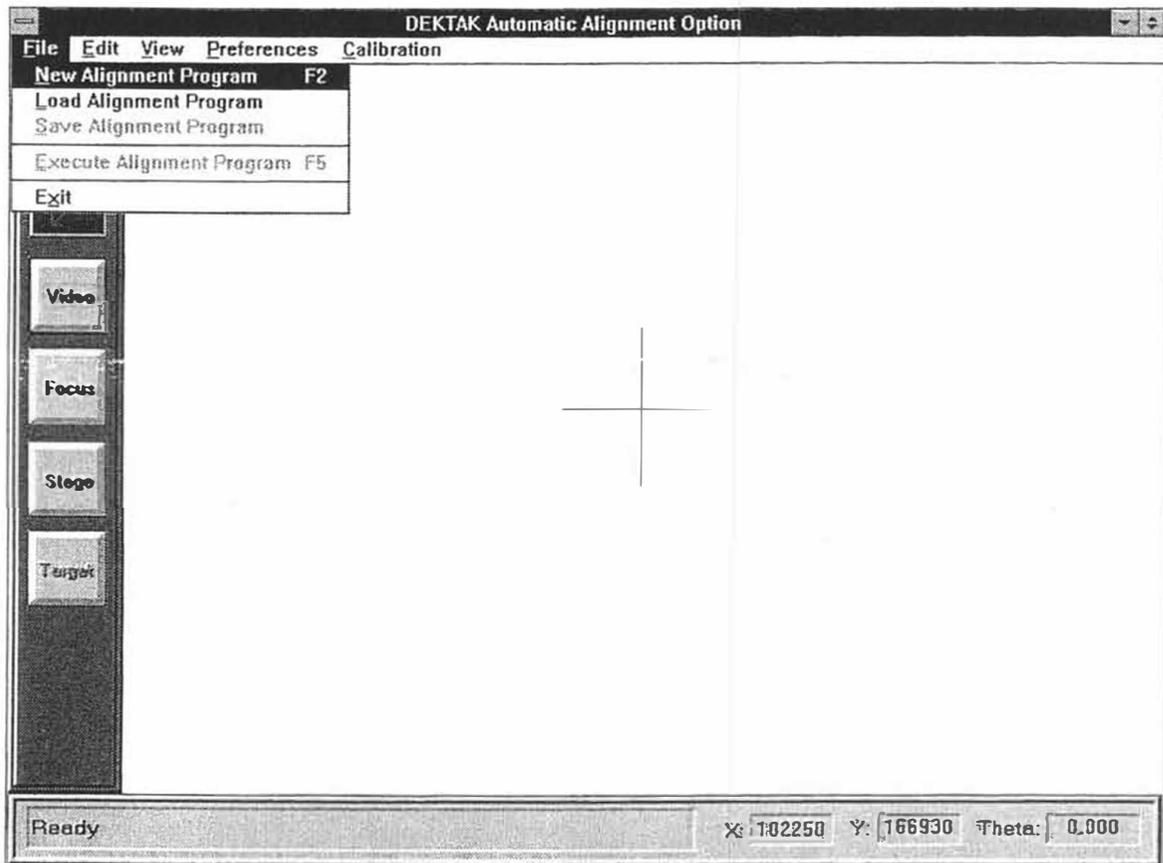
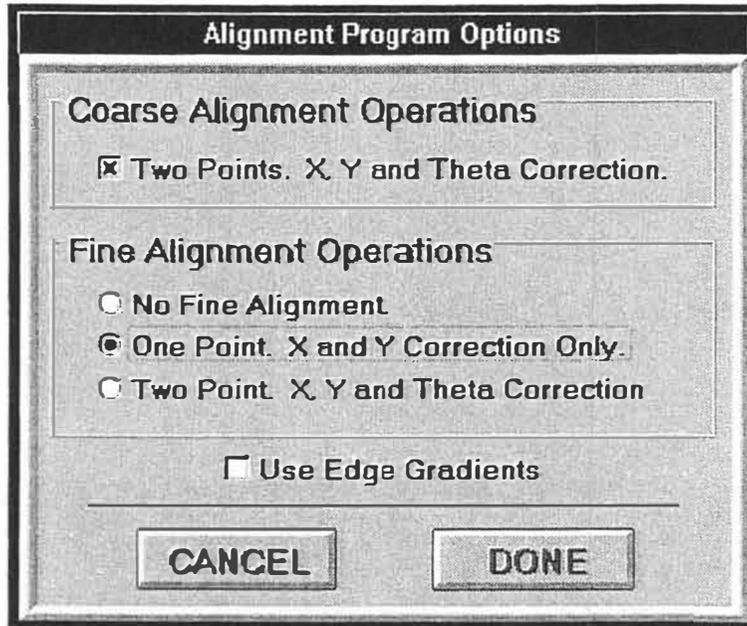

Figure F-3. Creating A New Alignment Program
Figure F-4. Alignment Program Options Dialog Box.
To create an alignment program, select the *New Alignment Program* menu item under the *File* menu in the Alignment Program Entry application (see Figure F-3) -- or key press F2 (function key F2). This begins the program creation. A dialog box will appear asking you to select the alignment program options (see Figure F-4). These include coarse and/or fine alignment, and selection of grayscale (default) or edge based model creation. Then based upon your selections, the program guides you through the operations of model location, training, and testing.
1. Select coarse alignment from the Alignment Program Options dialog box (see Figure F-4).